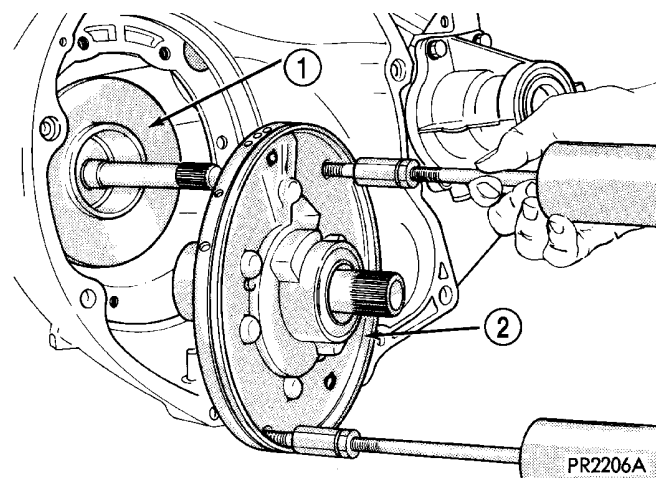

Fig. 28 Oil Pump Removal
(28) Remove oil pump with slide hammer setup (Fig. 28). Inspect #1 thrust washer.